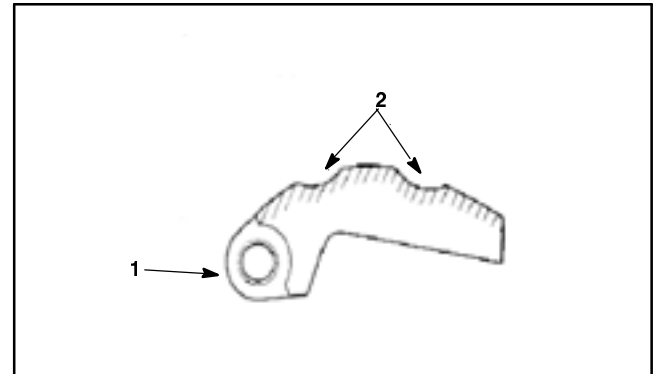

Figure 9
2. Check the surface of the cam weights. If worn, replace all cam weights as a set (Fig. 9).